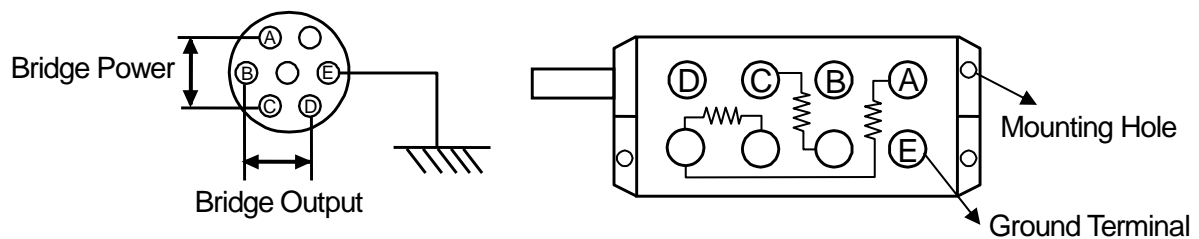

Fig. 4-1 Overview of Bridge Box
(1) Installation
- b. The bridge box may be secured with screws using the screw holes shown in Fig. 4-1, as needed.
(2) Connections to bridge box (5370)
- a. As shown in Fig. 4.1, pins A and C are provided for the bridge power supply, and pins B and D are provided for the input to the amplifier unit. Pin E is the common terminal.